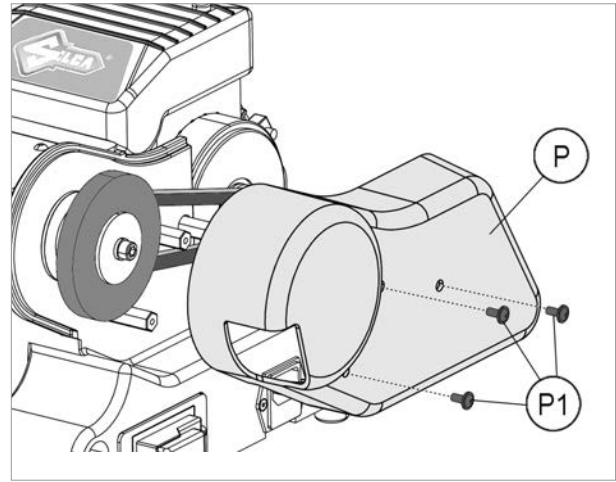

Fig. 41
- 6) Remove the screws (P1), then the protective cover (P) (Fig. 41).
- 3) Remove the cover (P) by loosening the screws (P1) (Fig. 41).
- 8) Place the motor cover (P).